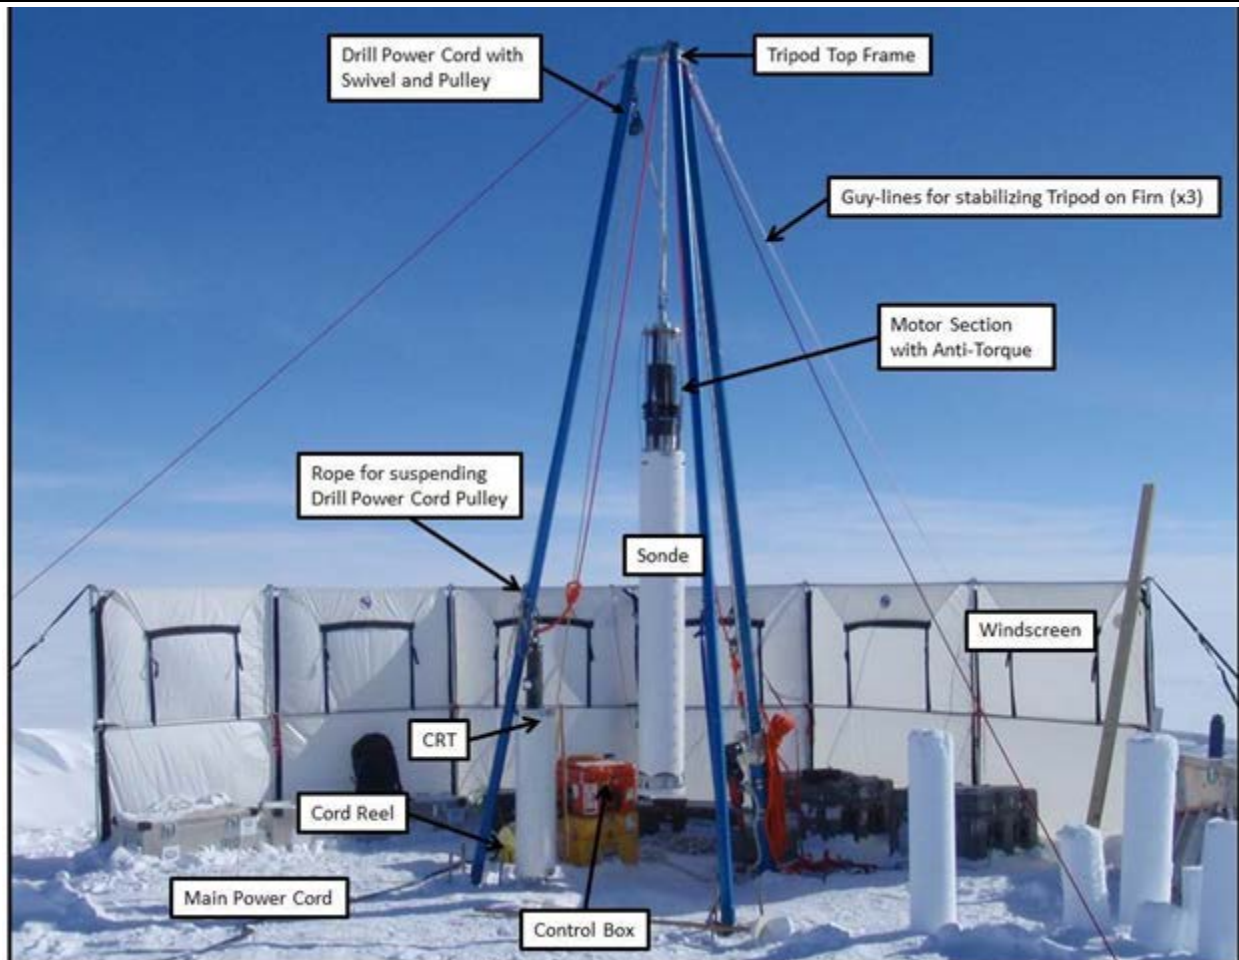

Figure 4: Full BID Drill System assembled near Summit Station, Greenland in 2013.
9.1.2.8 Install the Electrical Power Cord in the Pulley and attach the Pulley with a Swivel to the Electrical Power Cord Pulley Rope installed before the Tripod was erected. Pull the Pulley assembly up to the Bolt Hanger that suspends it, and tie-off the free end of the Rope to secure. See Figure 4.